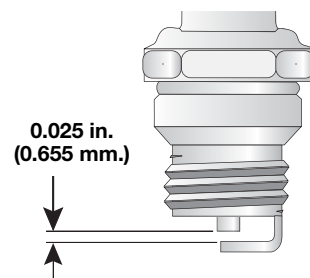

Fig. 56
4. Replace cracked, fouled or dirty spark plug. Set the air gap at 0.025 in. (0.655 mm.) using a feeler gauge (Fig. 56).